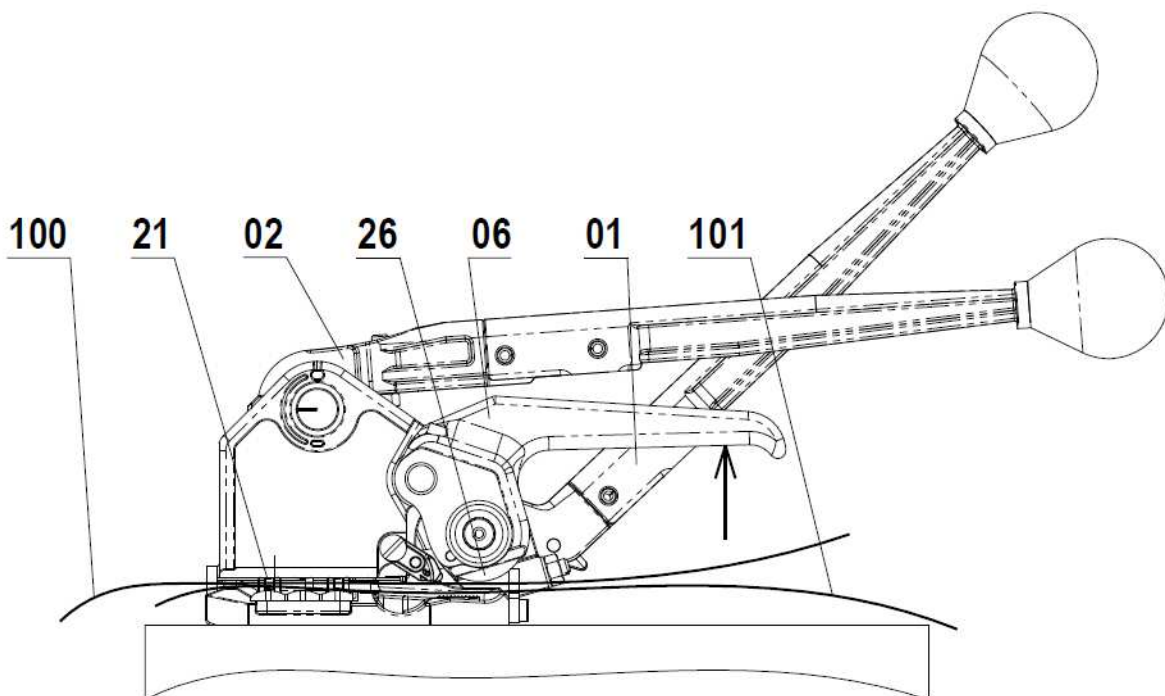

Fig. 2
1. Pull up on **Feed Wheel Support Handle 06** to raise **Feed Wheel 26**. Load both straps **100** and **101** under **Dies 21**, under **Cutter Blade 22** and under **Feed Wheel 26** and release the **Feed Wheel Support Handle 06** as shown on Fig. 2